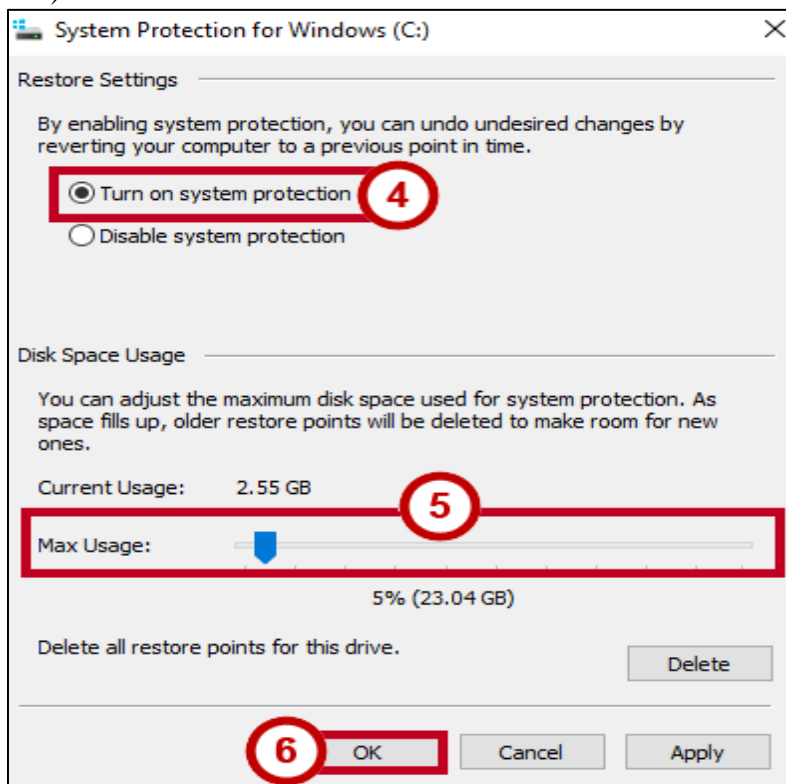

Figure 13 - Configure Restore Settings
4. Click to enable **Turn on system protection** (See Figure 13).
5. Use the **Max Usage** slider to determine how much of your hard drive to use to store restore points (See Figure 13).
6. Click **OK** (See Figure 13).